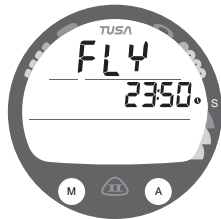
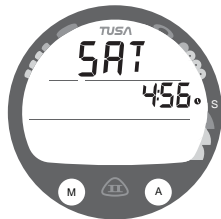

Fig. 74 - TIME TO FLY
Fig. 75 - DSAT TIME
- While viewing the first Plan screen, press and release the A button momentarily (< 2 sec) to access the Time to Fly screen (Fig. 74), then press it again to access Dsat Time screen (Fig. 75).